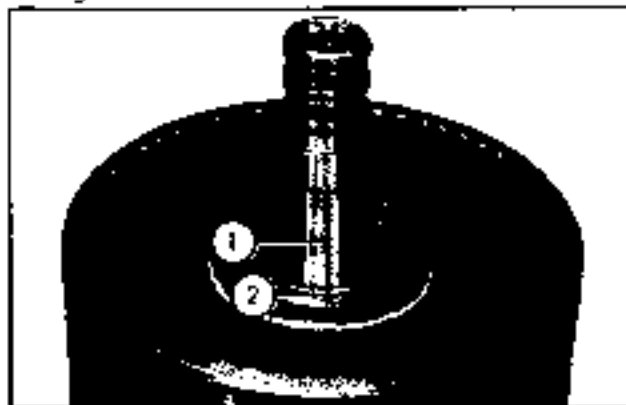

Fig. 1-53. Shaft installed
- h. Install the back-up ring (5) and secure the pack with the retainer ring (7). Make sure the ring is firmly seated in the groove.
- j. If new parts are being used, note the position of the tube hole in the splined portion of the hub, and place a mark on the unsplined hub, in line with the hole. (The shaft must be inserted from the unsplined end of the hub). See figure 1-53.